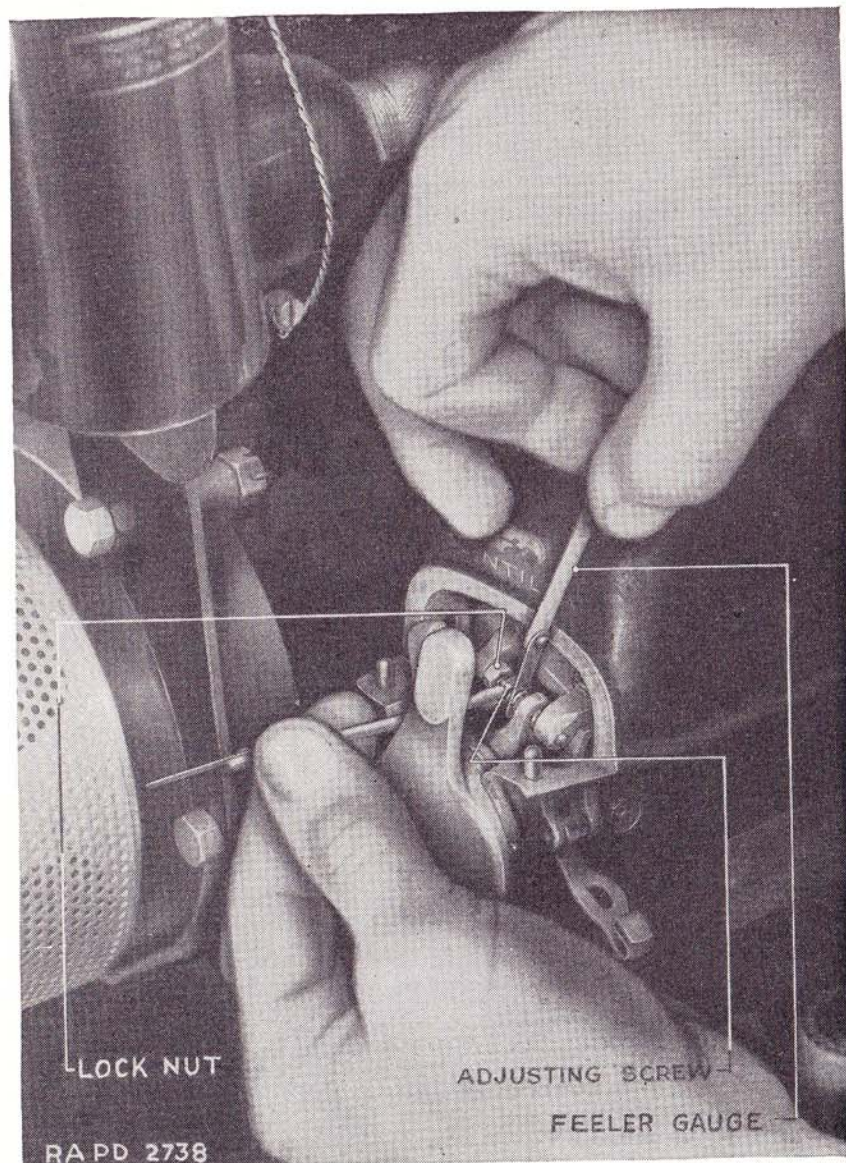

FIGURE 23.—Magneto point adjustment.
*b. Adjustment* (fig. 23).—Remove the breaker cover by releasing the safety ring on each side. Using a feeler gage, measure the clearance of the contacts when held wide open by the cam. This should be from 0.010 inch to 0.014 inch with 0.012 inch desired. To get the cam in a position to indicate the maximum gap, the engine will have to be turned over with the hand crank on the starter mechanism. To adjust the clearance between the contact points on the magneto, loosen the lock nut on the long contact screw, and turn the screw until there is 0.012-inch clearance between the contacts. Check clearance on all cam lobe positions.